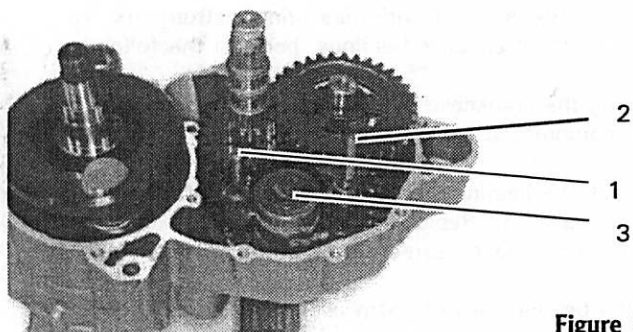
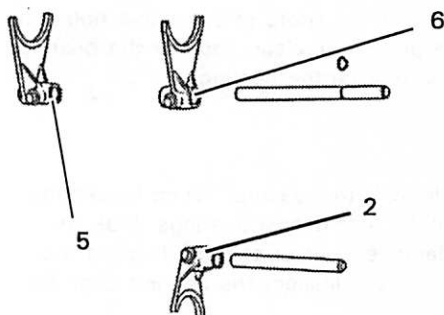

Figure 31
Figure 32
2. Remove the short fork spindle (1, Figure 31) and the 5th/6th speed shift fork (2, Figure 32).
3. Remove the long fork spindle (2, Figure 31).
4. Disengage the 2 shift forks from the shift drum, then remove the shift drum (3, Figure 31).
5. Remove the 1st/3rd speed shift fork (5, Figure 32) and the 2nd/4th speed shift fork (6, Figure 32).